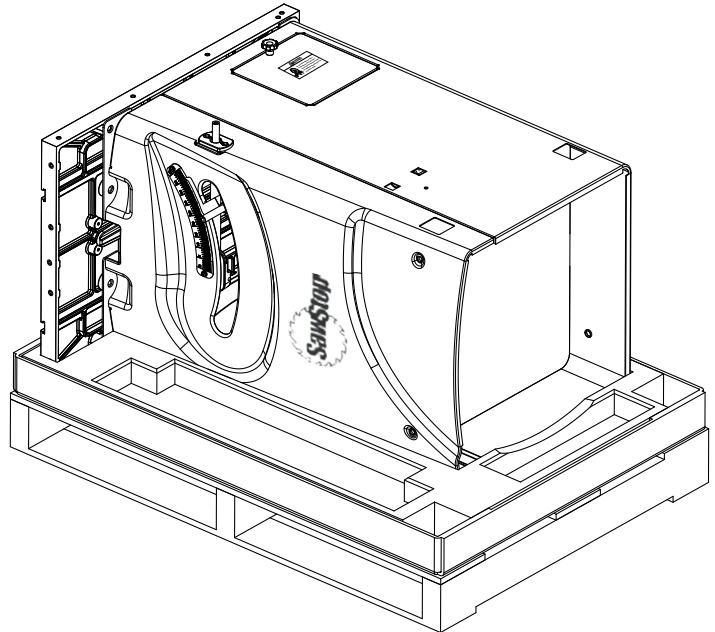

Fig. 1
1. Your saw is shipped horizontal to protect it from tipping during transit. To stand up your saw, first remove all packing materials and accessories from the shipping pallet (see Fig. 1). There is a poster that ships with the saw that shows where all of the accessories are located in the packaging.